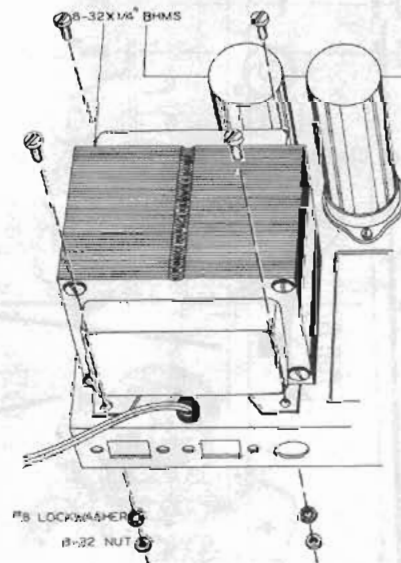

Figure 10
- ( ) Press strain relief into hole in chassis. See Figure 10.
- ( ) Install the power transformer on top of the chassis by first passing its leads through the rubber grommet. Secure with four 8-32 x 1/4" binder head screws, #8 lockwashers and nuts. See Figure 10.